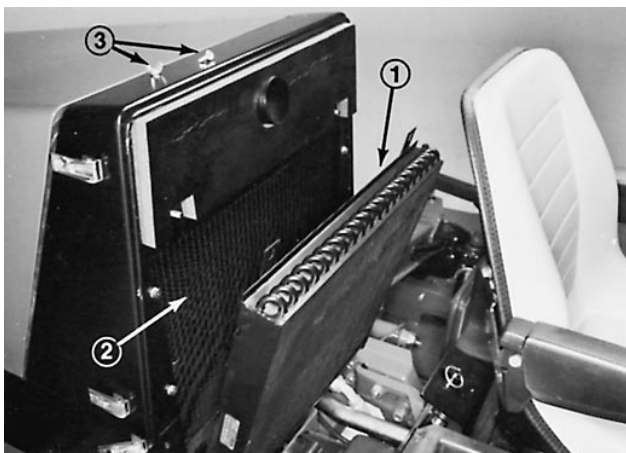

Figure 41
- C. Remove the wing nuts securing the top of the oil cooler to the upper radiator support and pivot the top of the oil cooler away from the radiator (Fig. 41).